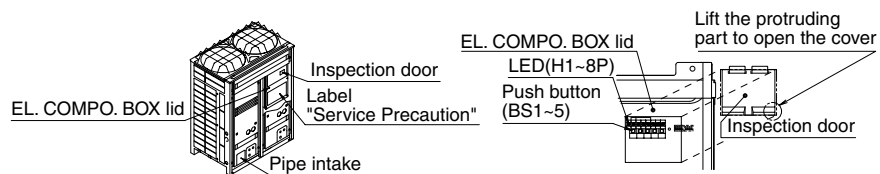
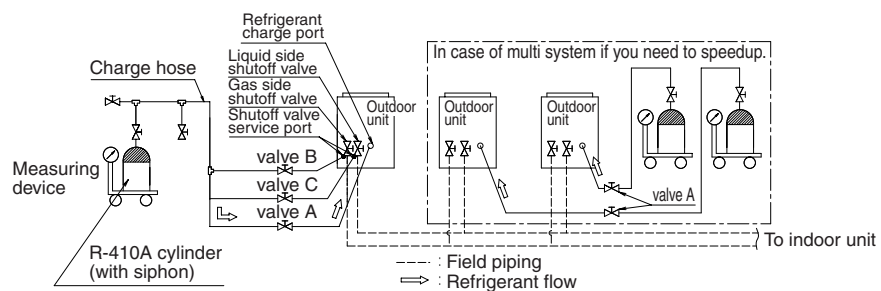

fig 32
fig 33
4. Perform the refrigerant charging operation following [Refrigerant charging operation procedure] as shown in page 153, and charge the remaining refrigerant of the “additional charging amount”. For performing the refrigerant charging operation the push button on the PC-board (A1P) of outdoor unit (In case of multi system master unit) are use. (See the figure 32) In addition, the refrigerant are charged from the refrigerant charge port via the valve A. (See the figure 33)
If you need to speedup in case of multi system, connect the refrigerant cylinders to each outdoor unit as shown in the figure 33.
STEP1 Open the liquid and gas side shutoff valves (The valve A~C must be closed. The valve A~C means the valves in the figure 33.)